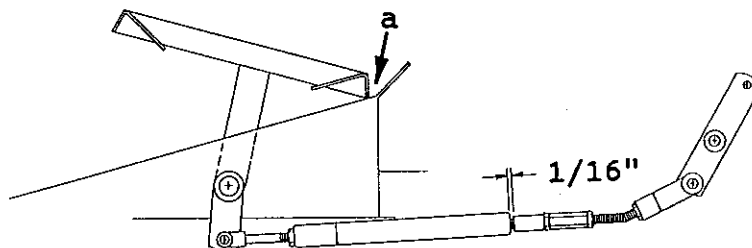

Fig. 9 Motion Control Linkage Adjustment
- b. Check the gap between the motion override tube and the spacer. This gap should measure 1/16 in. as shown in Figure 9.